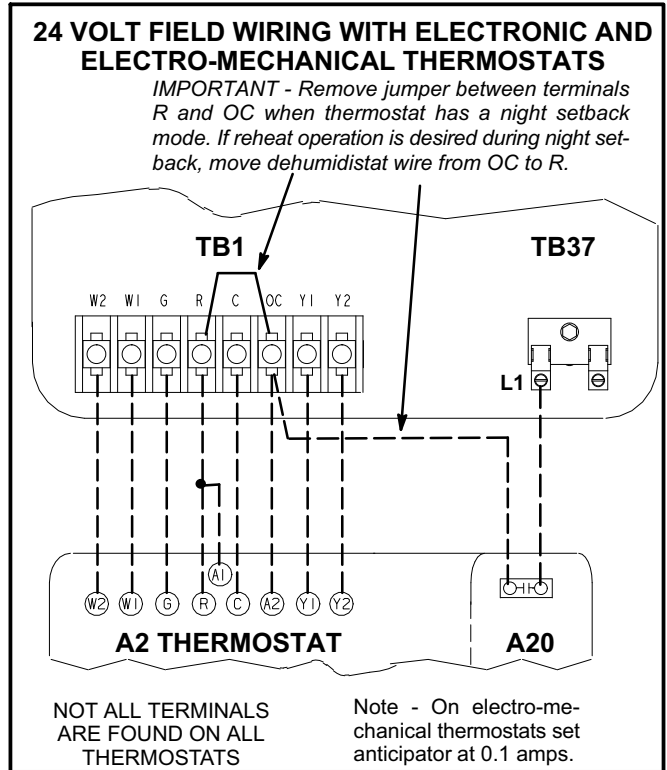

FIGURE 14
- 3- Connect thermostat wiring to TB1 terminal board on the lower side of the controls hat section. Wire as shown in figure 14 for electro-mechanical and
- 2- Connect dehumidistat and/or thermostat wiring to TB1 and TB37 as shown in figure 14.